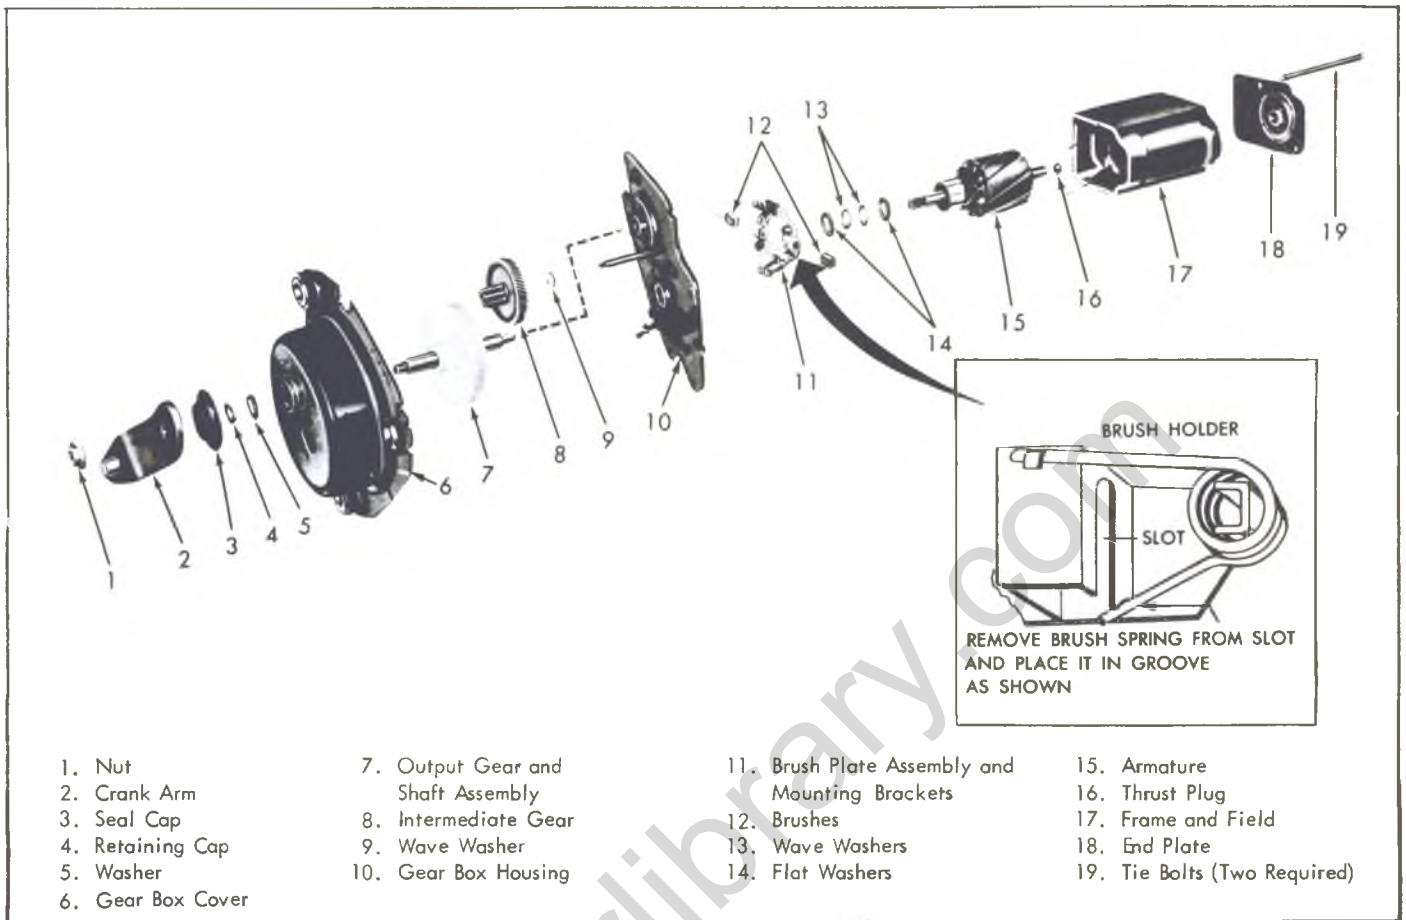

Fig. 40-Wiper Motor and Gear Box Assembly
### Disassembly (Fig. 40)
3. Remove brush spring tension (fig. 40), slide armature and end plate from motor frame. Pull end plate from armature.
Refer to Figure 40 for exploded view of motor and gear train.